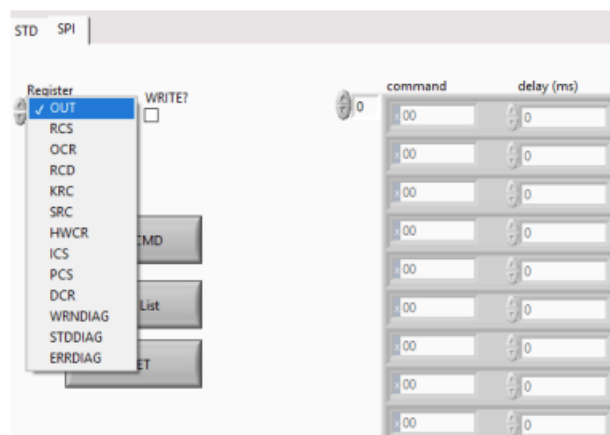

Figure 20 - Select register OUT
- Switch to SPI view and select register OUT (See Figure 20)